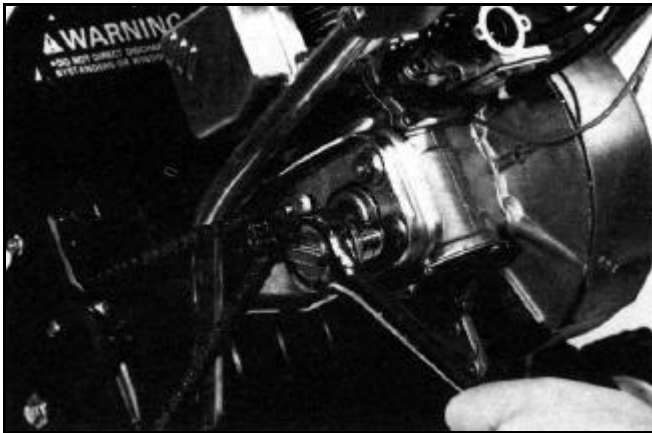

Figure 105
4. Loosen the four engine mounting nuts on the left side of the engine (Figure 105).